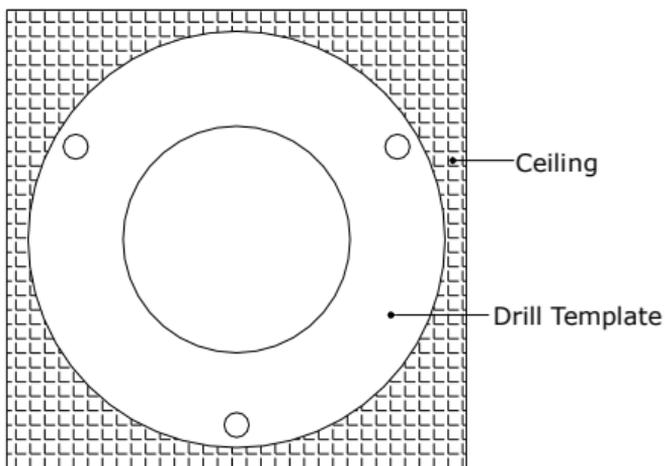

Figure 2-9 The Drill Template
2. According to the circles on the drill template as shown in Figure 2-9, drill screws holes in the ceiling on your demand.